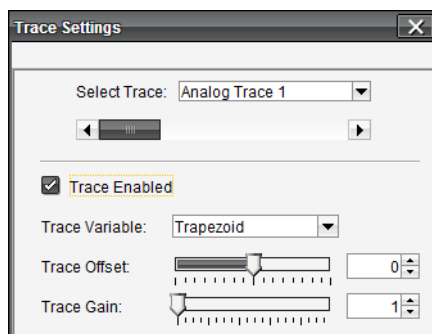

Fig. 6.10: The Trace Settings window
- **“...” button:** opens the Trace Setting window (**Fig. 6.10**) where to set the DC offset and the gain of the signal.